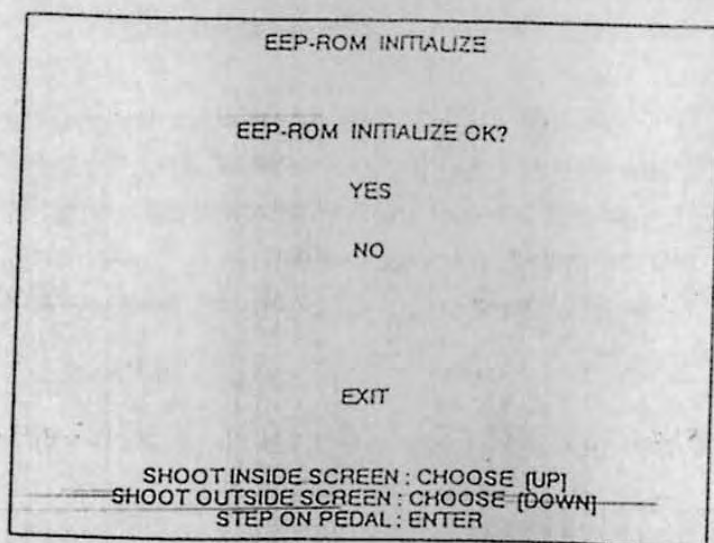

Fig. 6.11 Data Initialization Screen
- 2) When "EEP-ROM INITIALIZE" is selected and the pedal is stepped on, the screen shown in Fig. 6-11 is displayed. If "YES" is selected and the pedal is stepped on, all of the data is initialized.